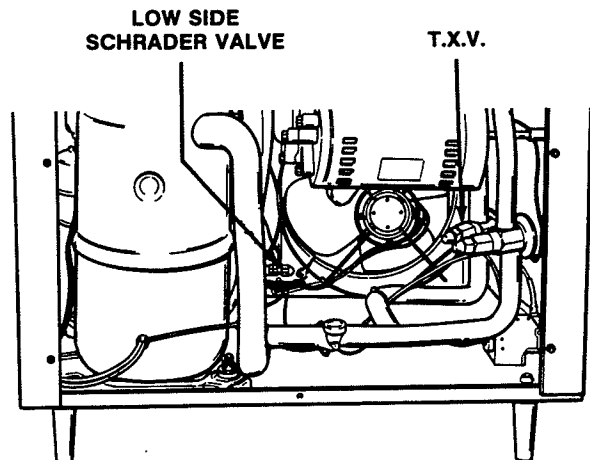

Figure 37. T.X.V.
5. Remove the cap on the T.X.V. and, using a service wrench, turn the valve stem 1/4 (90°) turn counterclockwise for more cooling or clockwise for less cooling (Fig. 37).